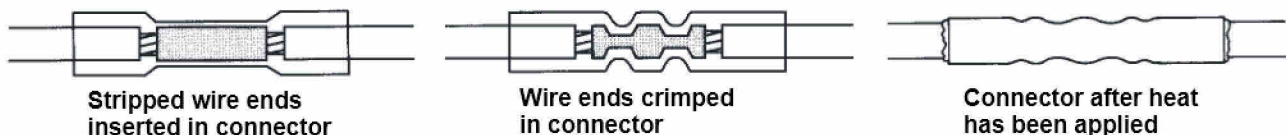

Figure 2. Install Sealed Butt Connectors
- b. See Figure 2. Insert wires prepared in step a. into opposite ends of a butt splice connector.
- e. See Figure 2. Using the UltraTorch UT-100 (H-D 39969), Robinair Heat Gun (H-D 25070) with Heatshrink Attachment (H-D 41183), or other suitable radiant heating device, heat the crimped splice to encapsulate the butt splice connection. Apply heat from the center of the crimp out to each end until the meltable sealant exudes out of both ends of the connector.